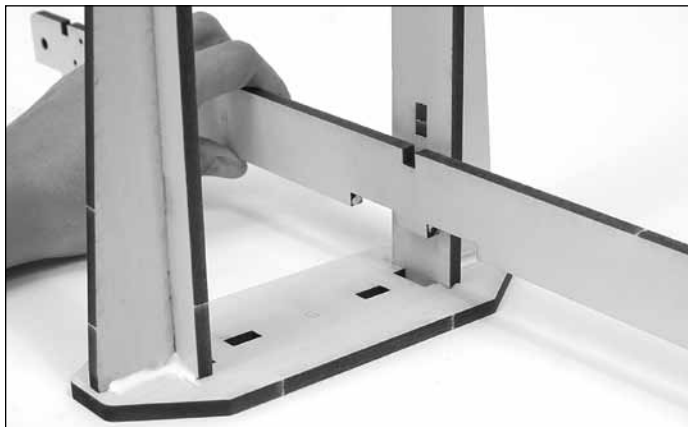

Figure 9
3. Gather the two Parts H. Glue a Part H onto Part G so the middle notch of H fills the rest of the hole that is shared by Part E. Repeat this on the other side with the other Part H (Figure 9).